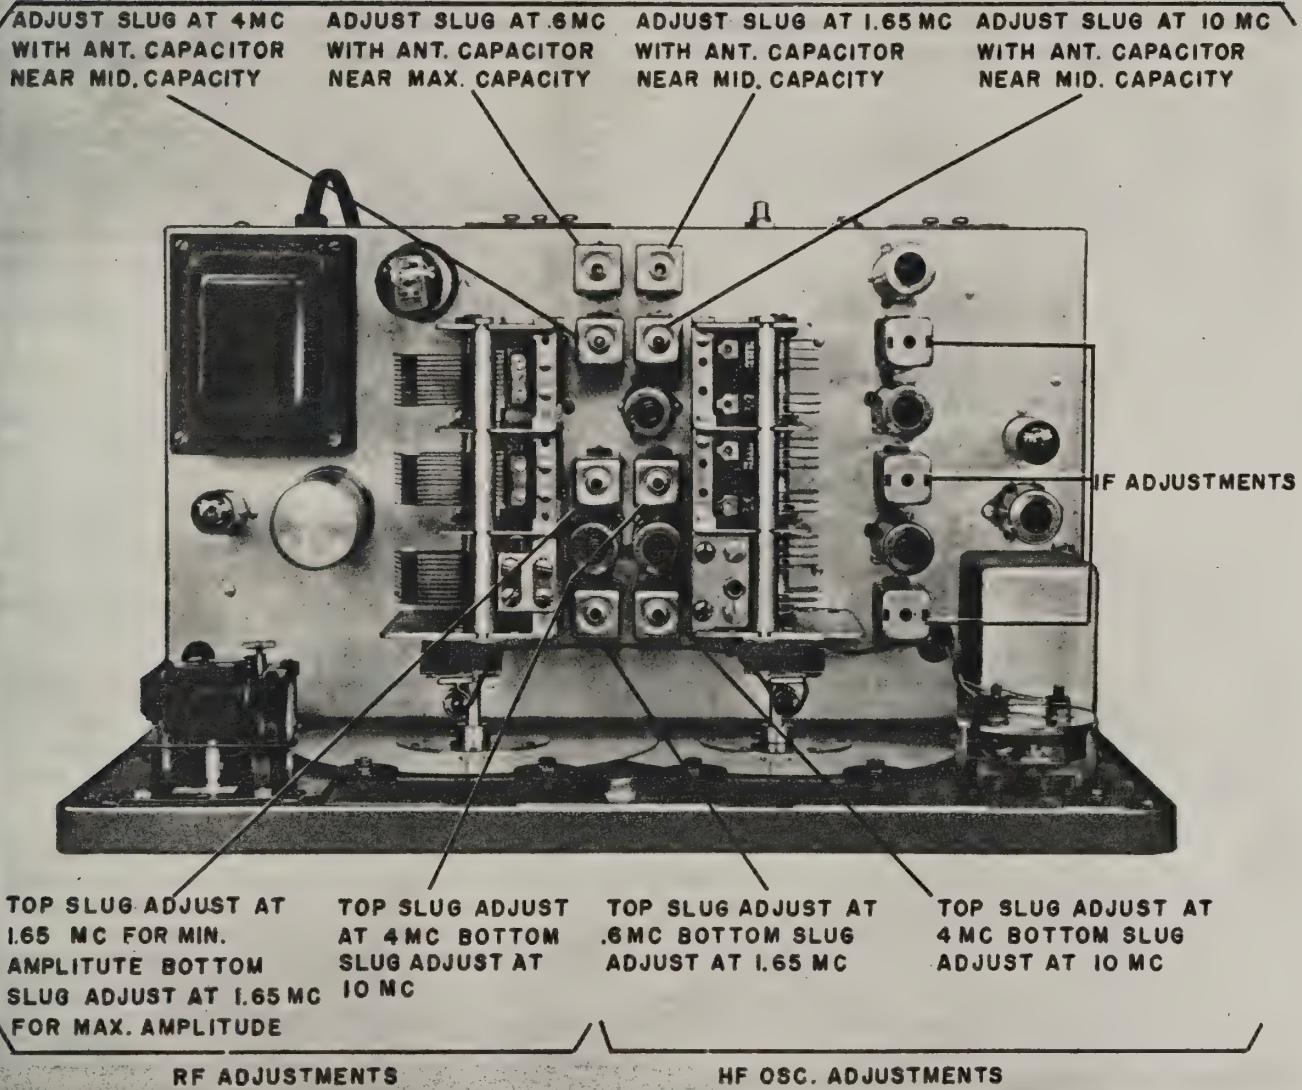

Figure 7. Top View of Chassis
- b. All RF and oscillator slug adjustments are made from the top of the shield cans. See Figure 7.
- b. Check to see that the frequencies at or near the alignment frequencies are "on the line." If not, make minor adjustments of the slugs and trimmers (Figures 7 and 8) to make them correct.